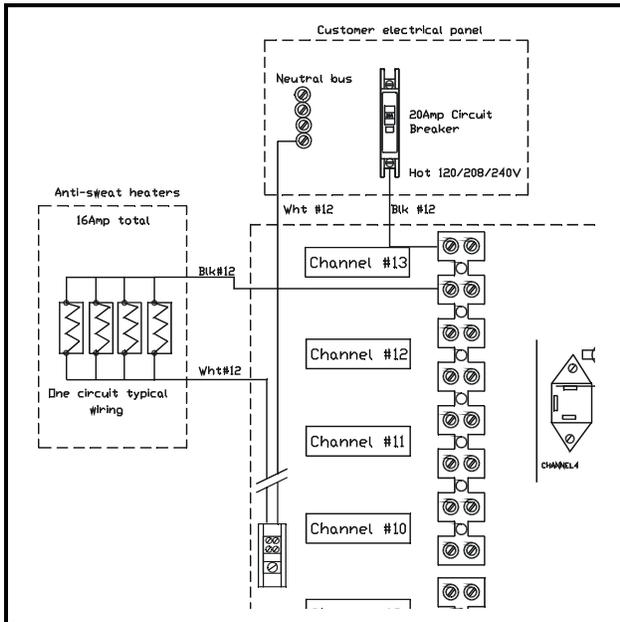

Figure 1-4 - Typical Heater Wiring Layout
3. Provide power to the case heaters from the store circuit breaker panel through the PMAC II Solo panel terminal strip using #10-12 AWG wire, as shown in *Figure 1-4*.